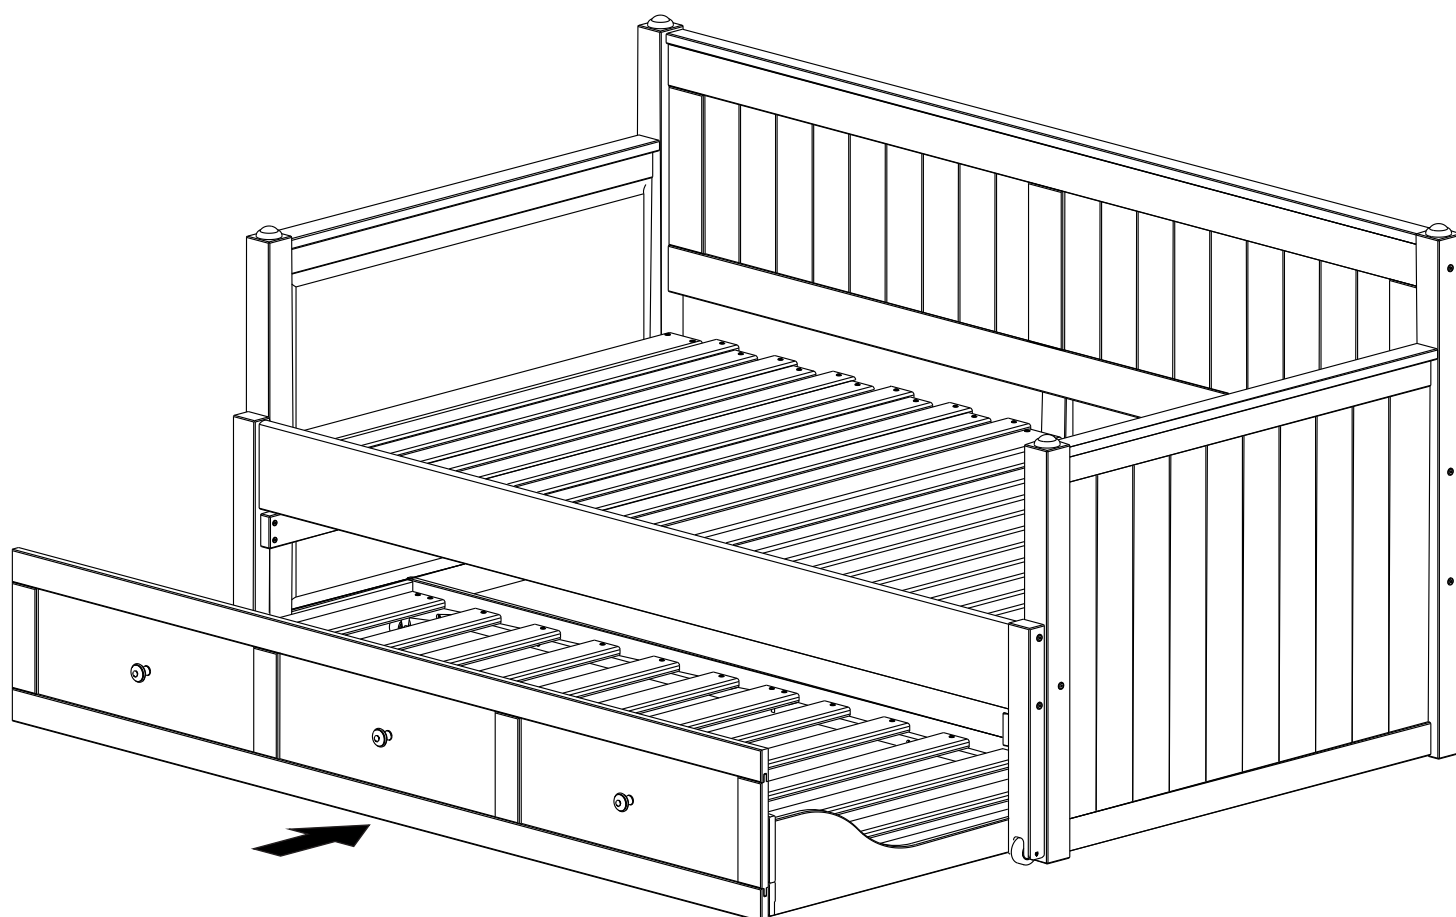

FIGURE 6/ FIGURA 6
6.1 - PLACE THE ASSEMBLED TRUNDLE UNIT ON THE PRODUCT, AS SHOWN ON FIGURE 6.
6.1 - PLACER LE CENTRE ASSEMBLÉ SUR LE PRODUIT, COMME INDIQUÉ À LA FIGURE 6.